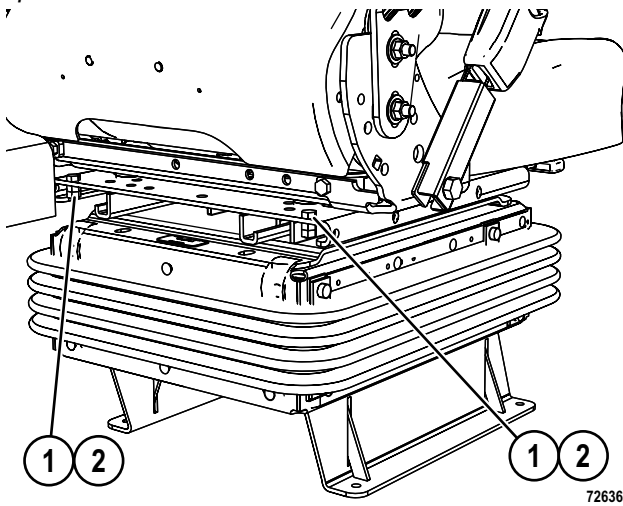

FIGURE 3-7.
1. Remove four nuts (2, Figure 3-7) and two cap screws (1) from rear of seat assembly. Release the fore and aft lever from the front of the seat. Slide the top portion of the seat forward off the suspension assembly and set it aside.